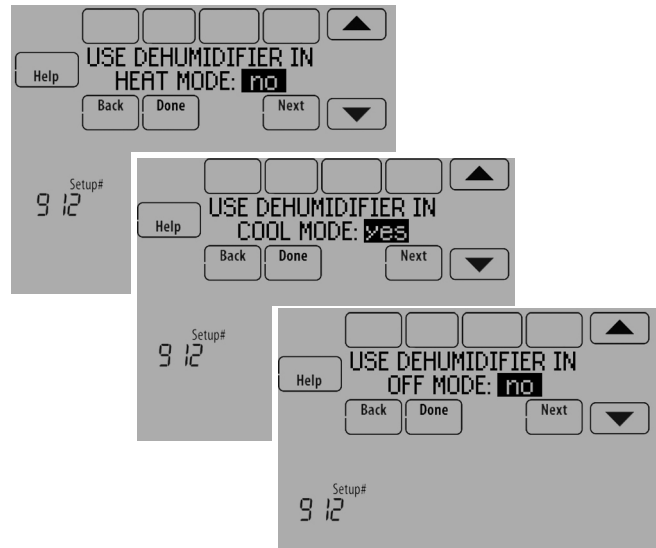

Fig. 133.
3. Select the system mode(s) to allow dehumidification. See Fig. 133.